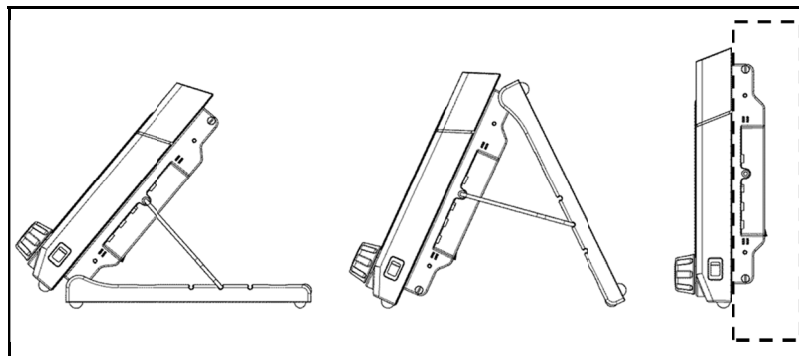

Fig. 2: Set-up/installation options for the vacuum controller
- Bench version 1 (see Fig. 2, left)
- Bench version 2 (see Fig. 2, center)
- Installation version (see Fig. 2, right)
Bench versions 1 and 2 (see Fig. 2 left and center)
Installation version (see Fig. 2, right)**Requirements**